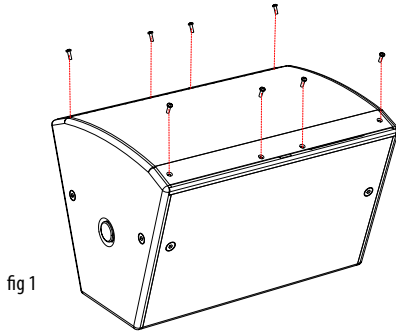

fig 1
1. Place the cabinet on its back on a suitable work surface. Remove the eight Pozidrive countersunk screws that hold the grille in place and set the grille aside (fig 1).